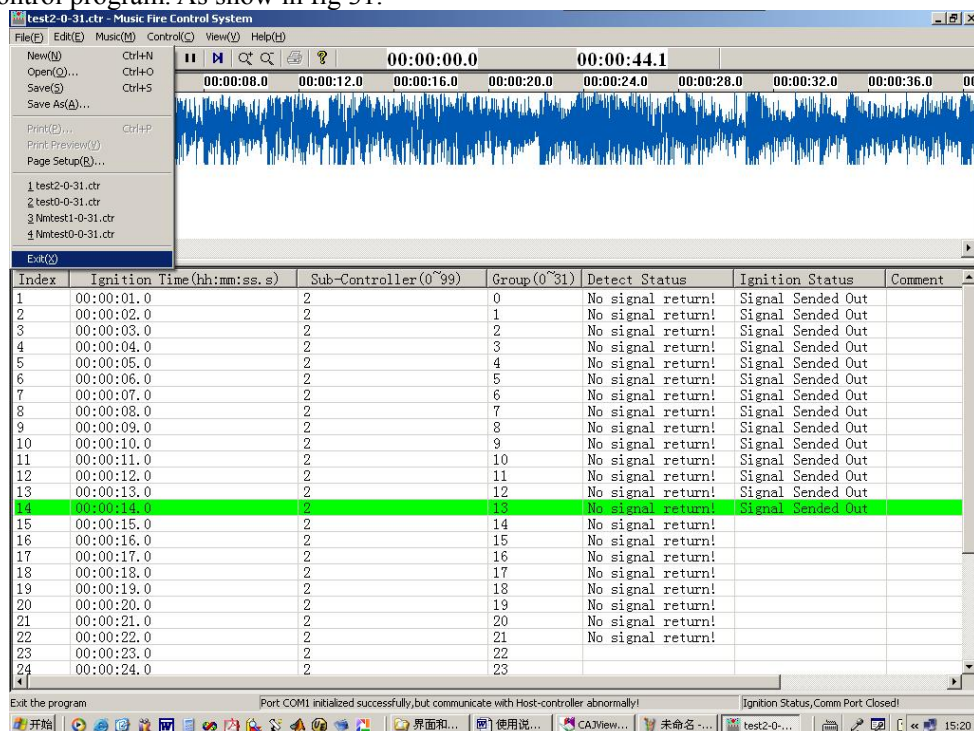

fig 31 Exit
11、Exit Program. If the SET-OFF is over, click the menu “file”→”Exit” or the right-top close button, to exit the control program. As show in fig 31.